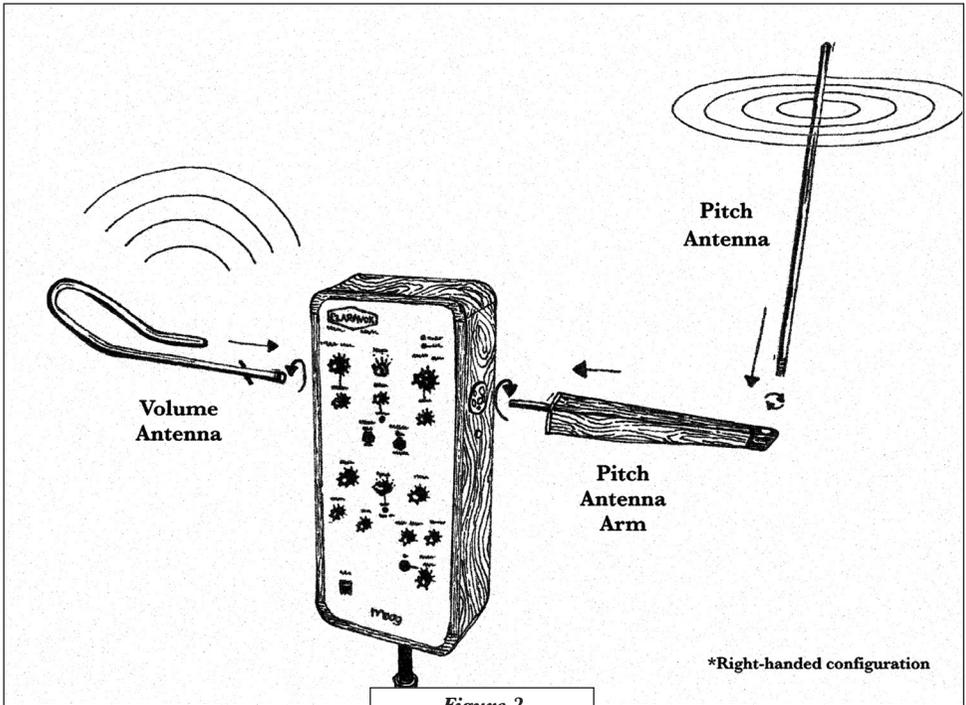

Figure 2
Refer to Figure 2
*Refer to Figure 2*